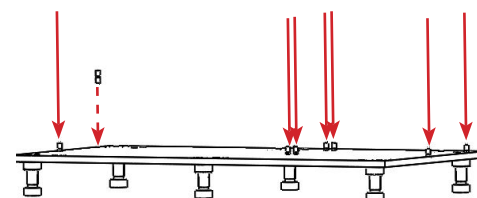

FIGURE 2.19 - Guide Pin Locations
STEP 1: Insert a guide pin into each of the pre-drilled holes in the top of the platform base. See FIGURE 2.19